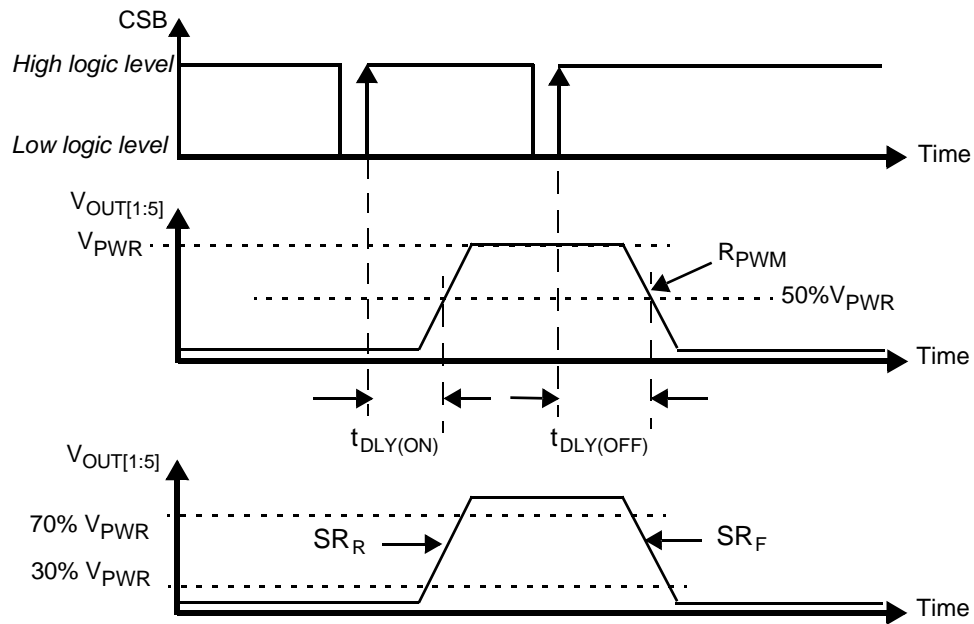

Figure 6. Output Slew Rate and Time Delays
39. The PWM ratio is measured at $V_{OUT} = 50\%$ of V_{BAT} in nominal range of PWM frequency (from 60 Hz to 400 Hz). It is possible to put the device fully on (PWM duty cycle = 100%) and fully off (PWM duty cycle = 0%). Between 4%-96%, OCHI_{1,2}, OCLO and open load are available in ON state. See Figure 6. Output Slew Rate and Time Delays.